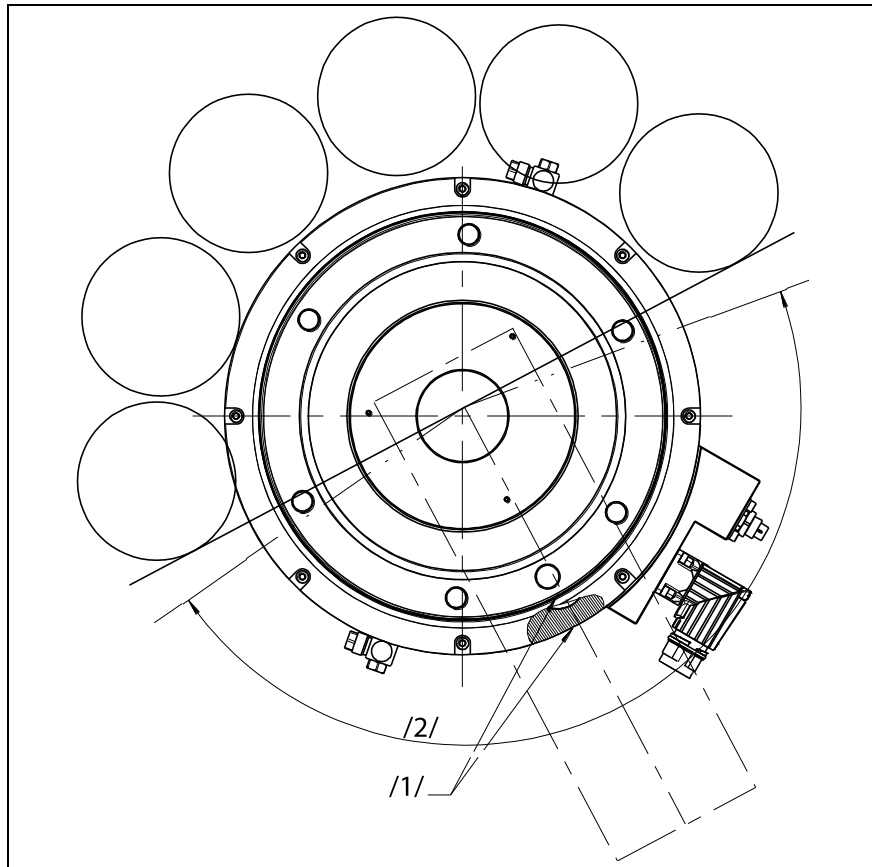

Figure 5 Zero pulse alignment
- If the unit has to be referenced via the measuring system's index track, and if the moving range is limited when the STM is installed, make sure that the basic carrier is aligned correctly in the machine. (see Figure 5, page 28)